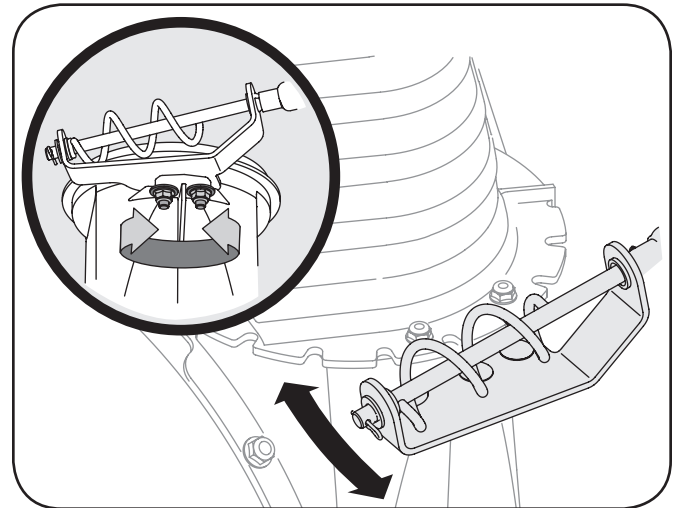

Figure 6-10
1. Loosen the two nuts which secure the chute bracket and reposition it slightly. See Figure 6-10.